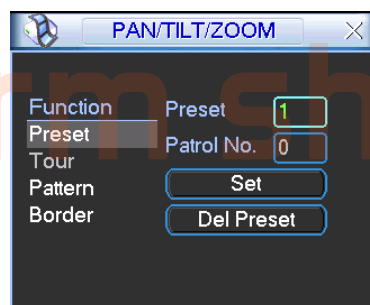
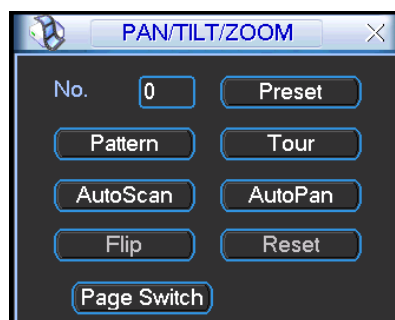

Figure 4-45
Figure 4-46
In Figure 4-42, please click the “set” button. The interface is shown as below. See Figure 4-45.
In \_ Figure 4-42, click page switch button, the interface is shown as in Figure 4-46.
- The following setups are usually operated in the \_Figure 4-42, Figure 4-45 and Figure 4-46.
In Figure 4-45, click preset button and input preset number. The interface is shown as in Figure 4-47.
In Figure 4-46, please input preset number in the No. blank, and click preset button.
In Figure 4-45, input patrol (tour) number in the No. blank and click patrol button
In Figure 4-45, click pattern button and then click “begin” button. The interface is shown as in Figure 4-49. Then you can go to Figure 4-42 X to modify zoom, focus, and iris.
In Figure 4-46, click “Auto Scan” button, the system begins auto scan. Correspondingly, the auto scan button becomes Stop button. Click stop button to terminate scan operation.
In Figure 4-46, click page switch button, you can see an interface is shown as below. See Figure 4-51. Here you can set auxiliary function. The aux value has relation ship with the Aux button of the decoder.